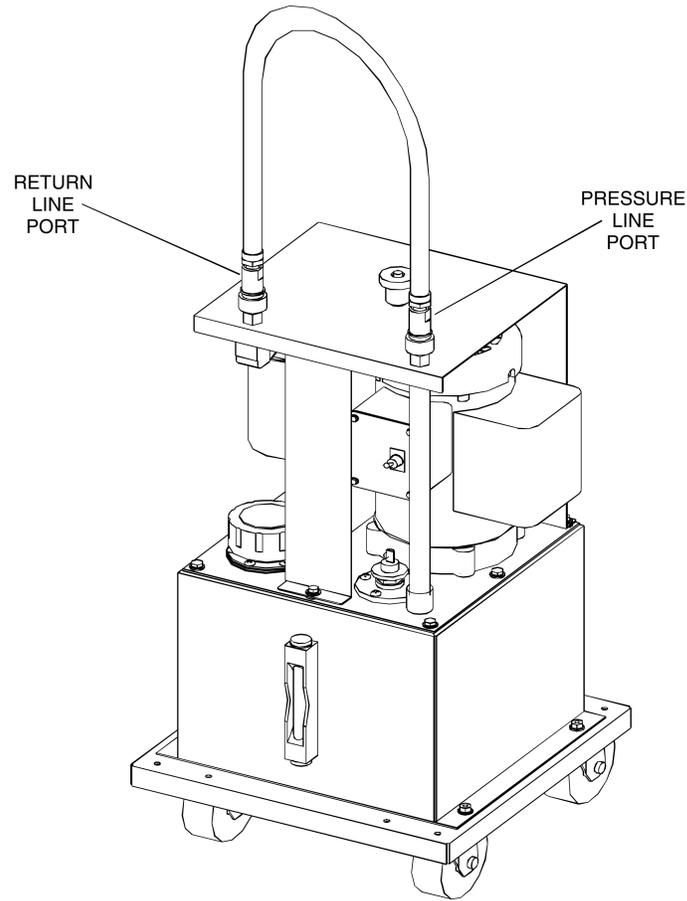

Figure 1-17. Modified circuit.
14. Disconnect the end of the hose connected to the input port of the supply manifold, then connect it to the return line port of the Power Unit, as Figure 1-17 shows. This circuit allows all the pumped oil to return directly to the reservoir through the Power Unit return line filter.